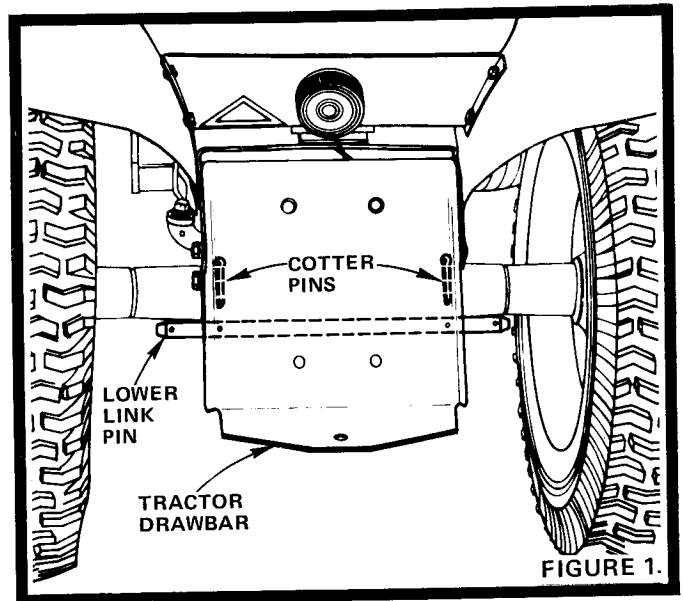

FIGURE 1.
IF YOUR TRACTOR TAILLIGHT AND DRAWBAR LOOK LIKE THOSE SHOWN IN FIGURE 1 BEGIN ASSEMBLY WITH STEP 1.
- a. Slip Lower Link Pin through holes in sides of Tractor Drawbar by inserting Pin through opening between web and rim of wheel. In some cases it may be necessary to remove one wheel (Fig. 1).